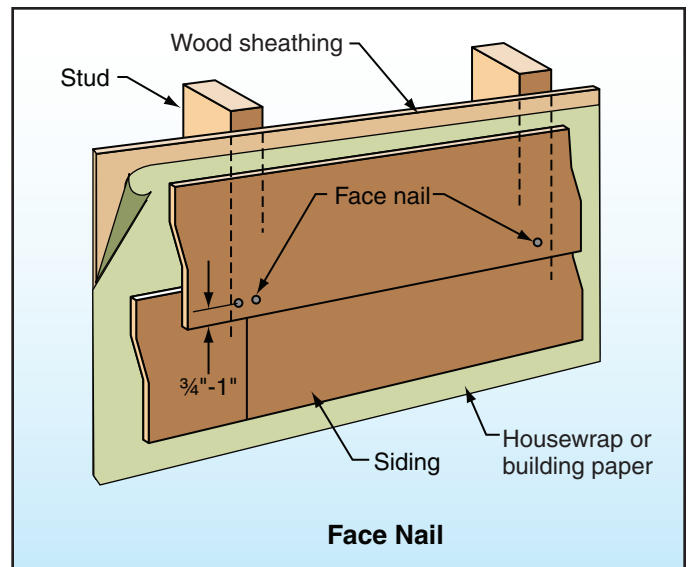

Figure 11. Face nailing.
- Face nailing (Figure 11) instead of blind nailing is recommended where the basic (design) wind speed is 100 miles per hour or greater. If the local building code or manufacturer specifies face nailing at a lower wind speed, install accordingly.